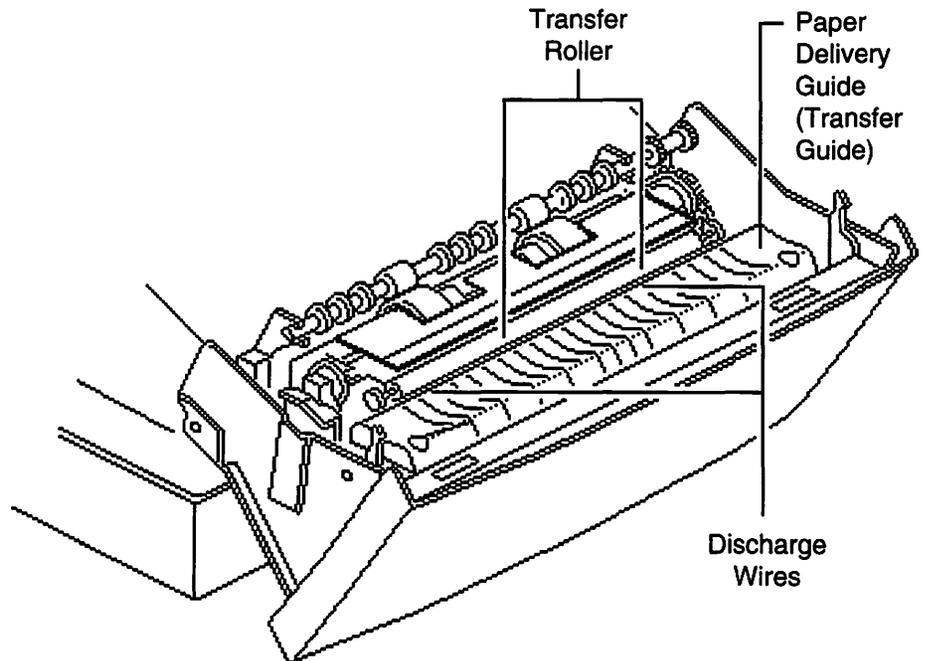

Figure 1-18
- The transfer roller (see Figure 1-18) applies a positive charge to the sheet of paper, causing the developed image to transfer from the photosensitive drum to the paper.
- The paper delivery guide (see Figure 1-18), referred to as the transfer guide in the *LaserWriter Select Service Training* videotape, removes any charge left on the paper as it passes over the wire-like teeth along the paper delivery guide's front edge. The paper delivery guide also guides the printed page from the transfer roller and toner cartridge toward the fuser assembly.